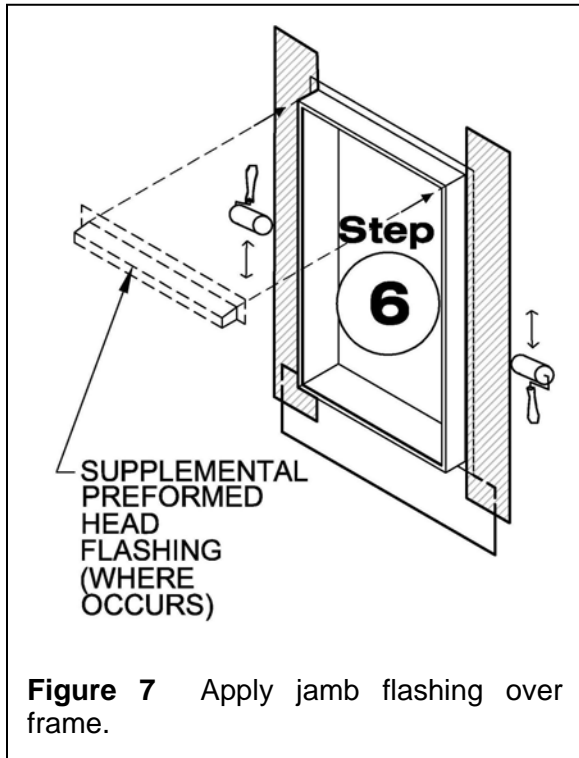

Figure 7 Apply jamb flashing over frame.
Step 6. Precut Polyken® or Nashua® jamb flashing tape to extend a minimum of 6” above and below the rough opening(see Figure 7).